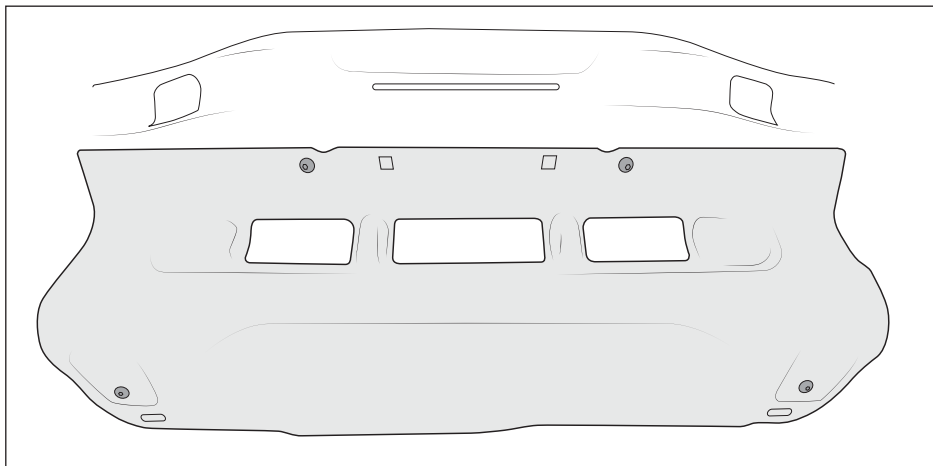

Figure 32
- Install the skidplate using four of the provided black M8x25mm button head bolts and washers. Start by loosely installing bolts through lower portion of skidplate into U-nuts from previous step. Then rotate the skidplate up so flat front flange sits flush against bumper center and install only the two inboard front bolts at this time. The outboard mounting bolts will be installed after the tow loops in the next step. Snug all four bolts (fig. 32).